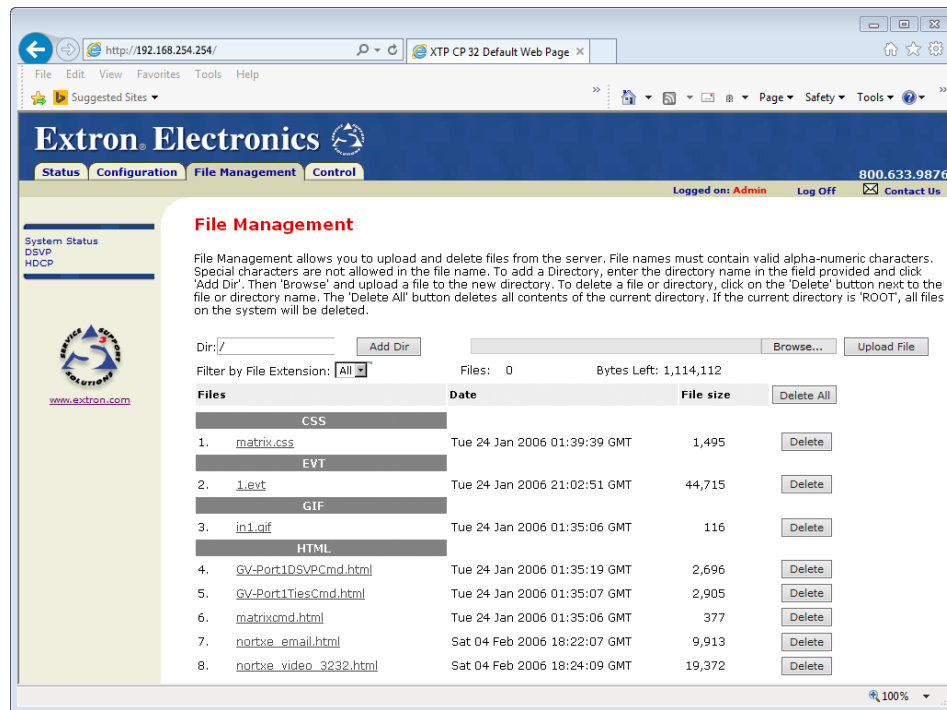

Figure 67. File Management Page
To delete files such as user-supplied HTML pages from the matrix switcher or to upload your own files to the matrix switcher, click the **File Management** tab (see figure 67, ①). The matrix switcher downloads the File Management page.
NOTE: The files listed in figure 67 are shown for example only and may not be present on your matrix switcher.